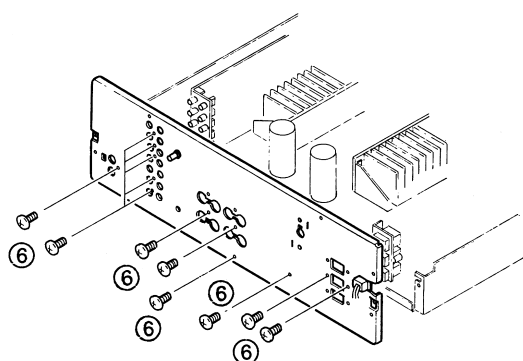

Fig. 3
Remove 12 screws (⑥) in Fig. 3.